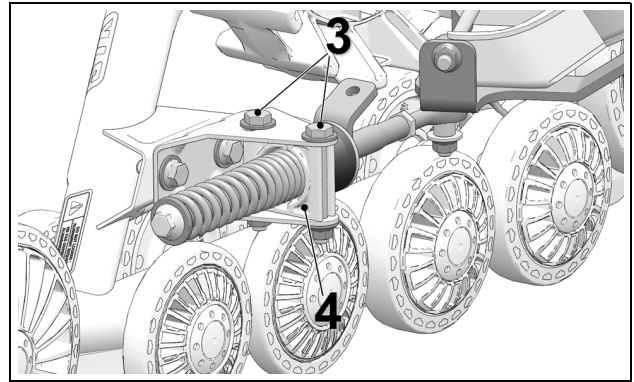

Figure 14
- Loosen anti-rotation bracket bolts (3) to allow the anti-rotation retainer (4) to rotate on its axis. See Figure 14.